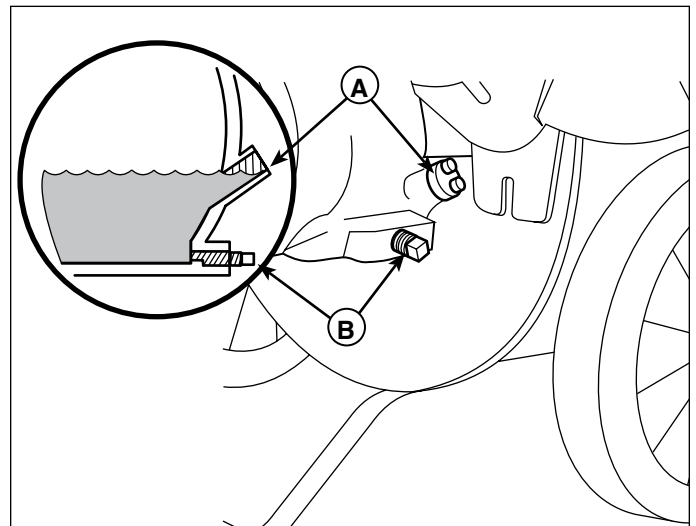

Figure 11. Oil Fill and Oil Drain
Check the engine oil level at the oil fill and level check plug (A, Figure 11).
2. Remove the oil fill and level check plug (A, Figure 11) by twisting it counter-clockwise. The oil should be filled up to the mouth of the filler opening as shown in the Figure 11 inset.
2. Remove the oil fill and level check plug (A, Figure 11) by twisting it counter-clockwise.
3. Place an oil drain pan below the engine and remove the oil drain plug (B, Figure 11). Allow the oil to drain completely.
4. Reinstall the oil drain plug (B). Tighten the plug to 125 inch pounds (14 Nm)
5. Add oil to the oil fill hole (A) until the oil level is even with the bottom edge of the oil fill hole (Figure 11 inset).